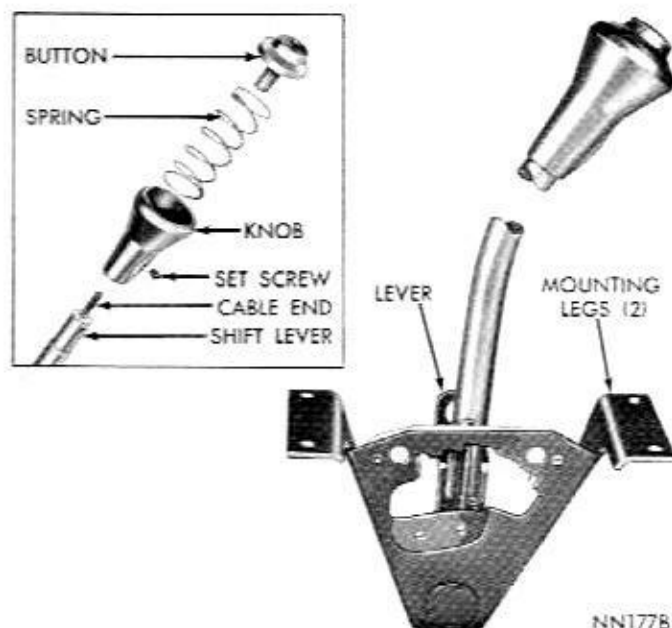

Fig. 97—Console Gearshift Unit
(6) If console removal is required, disconnect battery ground cable. Remove set screw and shift knob or handle. Proceed as outlined in Body Section 23.
(7) After console is in place, install shift knob as follows: with gearshift lever in NEUTRAL, thread button, spring and knob assembly on the cable end until dimension from top of button to top of knob is 13/32" (Fig. 97). Secure knob with set screw.
(8) Connect battery ground cable.